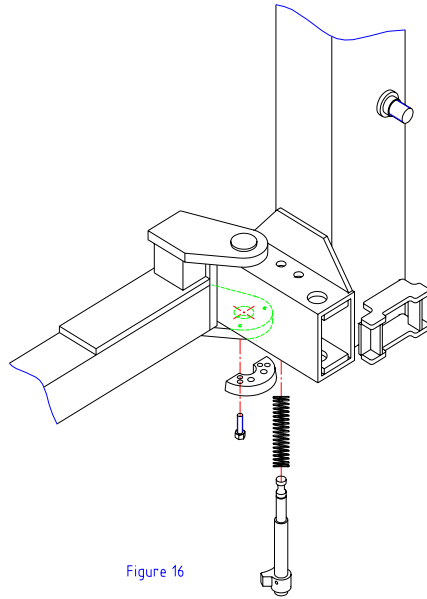

Figure 16
- B. Position the gears with word TOP against the bottom of the arms in the orientation shown in figure 16. Attach the gears to the arms **with (2) 3/8-16NC X 1-1/2 long HHCS. Do not tighten at this time.**